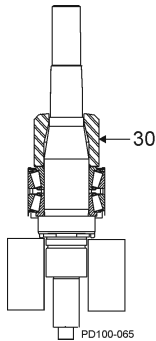

Figure 49 - Install Bearing Spacer
9. Install the bearing spacer (Figure 49, item 30).